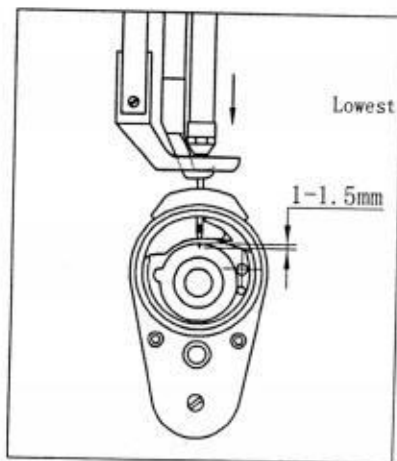

Fig. 2
- (A) Turn the hand wheel according to the arrow indicated on the pulley cover Until the needle bar reaches the highest position.
- (B) Loosen the pinching screw to unclamp the needle socket.
- (C) Insert the needle into the bottom of the needle socket with the long slot Inward and the threading slot 100 towards the left.
- (D) Fix the needle with the pinching screw.
- (E) When the needle is in the lowest position, the tip is required to stick out 1 – 1,5 mm of the long slot of the shuttle. Such circumstances as winding or end breaking will occur if the tip sticks out too much (Fig. 2)